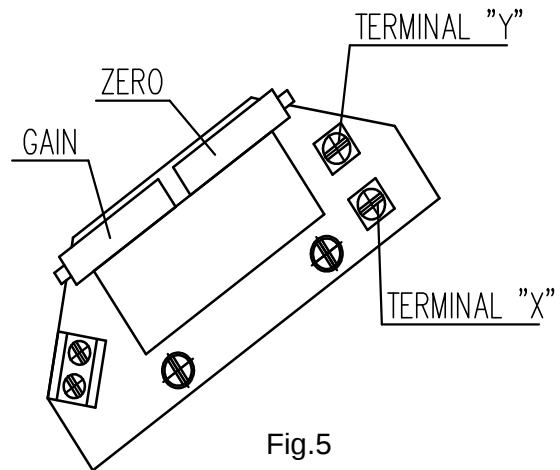

Fig.5
EPV – the 2-wire version (Fig. 5,5a)
- Adjust the resistive transmitter according to the previous chapter. The resistance is to be metered on the terminals X-Y, resp. R-R (Fig. 5,5a). The used transmitter resistance is 100 Ω .